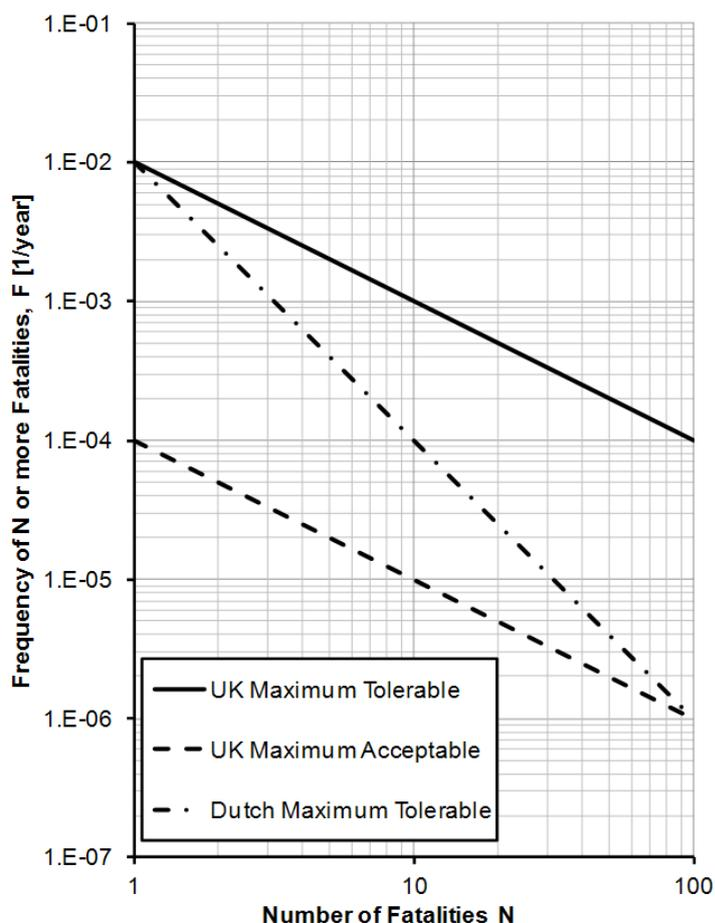

Figure 2: UK/Dutch societal risk criteria for 1 km of pipeline
Figure 2 shows the resulting frequency limits of Eq. (1) and Eq. (2) in an FN-diagram, corresponding to the societal risk criteria of 1 km pipeline in the Netherlands and UK, respectively.
In BSI 2009 it is proposed to generate a site-specific FN-curve by multiplying the frequency values  $F$  by a factor of 1 km divided by the total pipe length and to assess the resulting societal risk against the criteria shown in Figure 2.